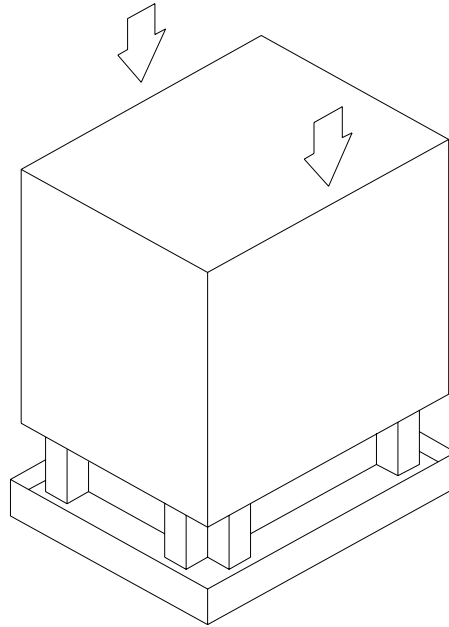

Figure 6-9 Placing the carton over the library
8. Place the carton over the library, as shown in Figure 6-9, and tape the box shut.